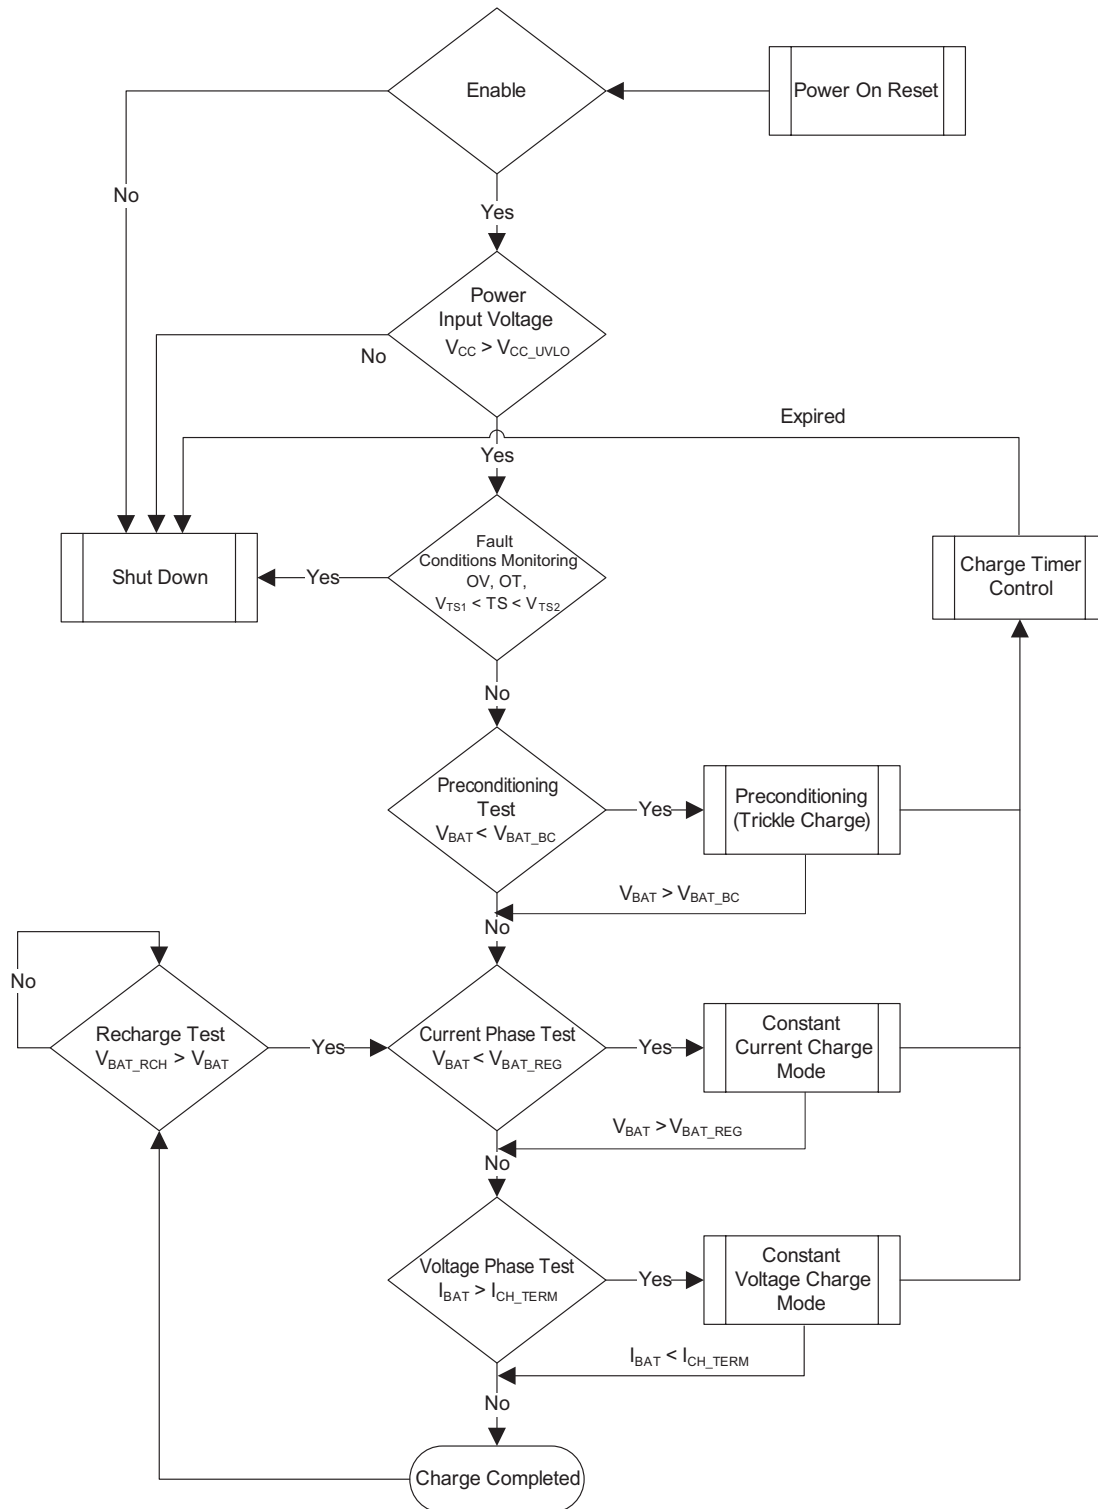

Figure 2: System Operation Flowchart for the Battery Charger.
Battery charging commences only after the AAT3620 battery charger checks several conditions in order to maintain a safe charging environment. The System operation flow chart for the battery charger operation is shown in Figure 2. The input supply must be above the minimum operating voltage (UVLO) and the enable pin (EN) must be high (it is internally pulled up). When the battery is connected to the BAT pin, the battery charger checks the condition of the battery and determines which charging mode to apply.